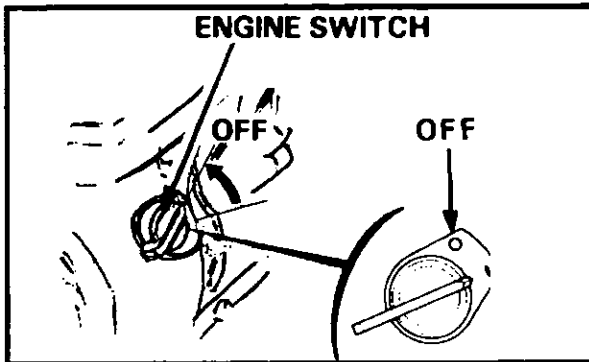

Figure 5-10 Engine Switch - OFF Position.
3. Stop the engine by turning the engine ON/OFF switch to the right to position **O**, Refer Figure 5-10.